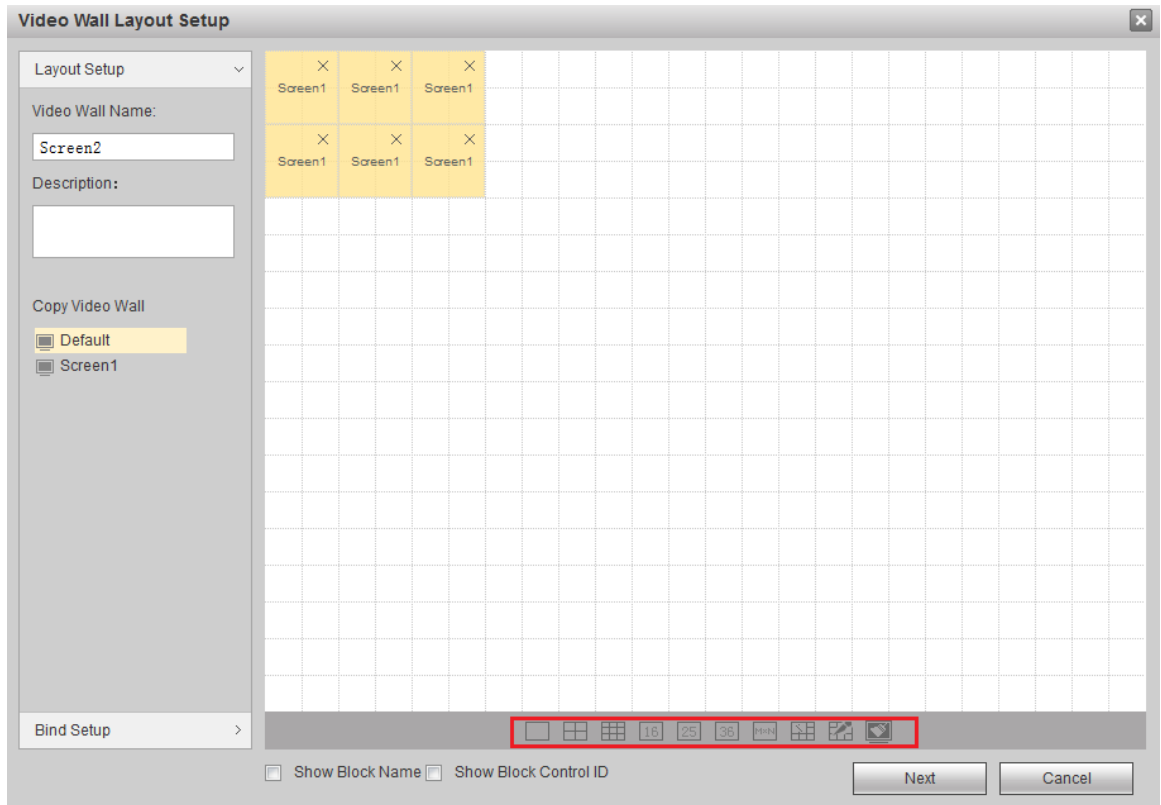

Figure 3-6
- 2) Click interface icons to add single video wall and splicing video wall quickly, as shown in Figure 3-6.